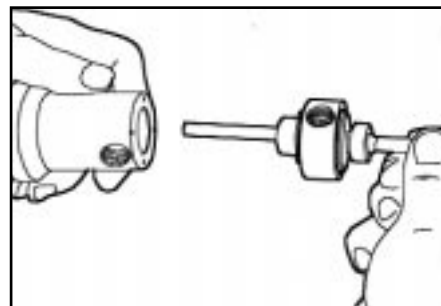

Figure 21
12. P04-6S/8S: At this point, usually the upper and middle poppet stems will separate. If the lower and middle poppet stems should separate, however, modify the rest of this procedure accordingly. (Fig.21)